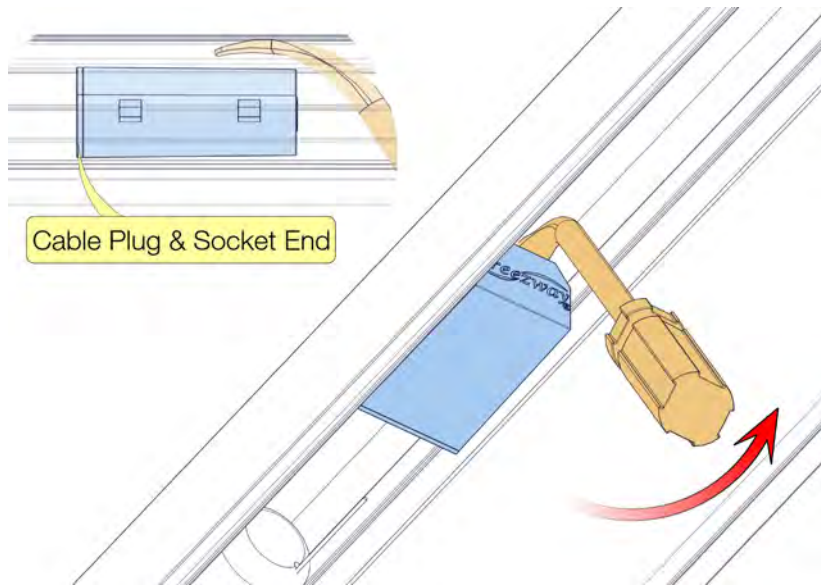

Fig. 23.4.4.4-1.1
3. Lever the PCB out of the head from the opposite end to cable plug & socket end using the Hook-end Screwdriver. *Refer to Figure 23.4.4.4-1.1.*